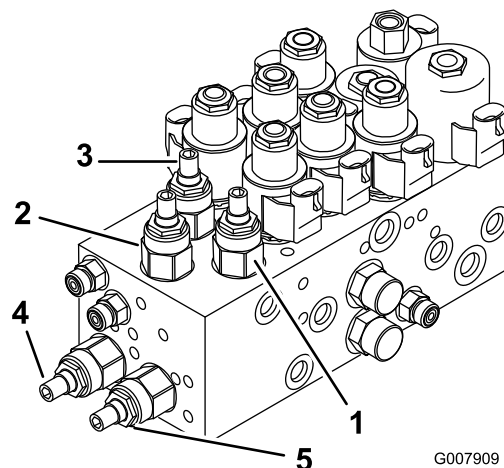
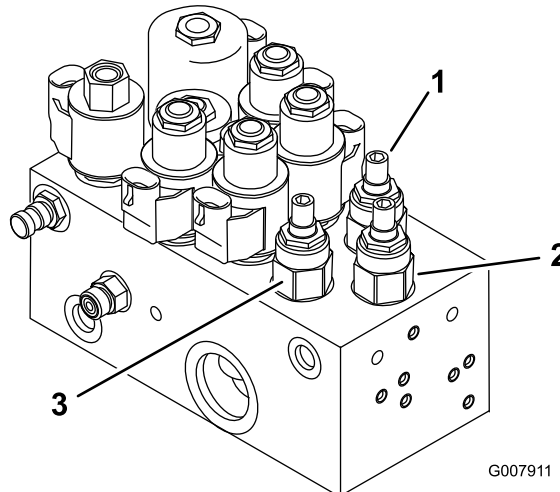

Figure 86
Figure 87
1. Locate the valves, on the lift manifold, for adjusting the desired cutting unit(s) (See chart and Figure 86 and Figure 87).